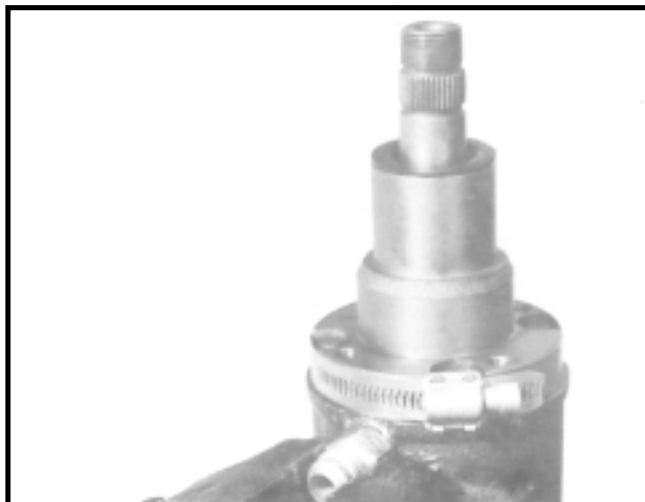

Figure HGA-20
- 16a. Place shims on top of the thrust washer (11). Coat seal (8) with clean grease and place in upper cover (7) counterbore. Assemble upper cover onto input shaft (16) and rotate to align punch marks previously made during disassembly. **Note: If a new upper cover is used no angular orientation is required. However, it is necessary to align the upper cover (7) and housing (25).** Replace with screws, finger tight, and then use a pilot ring or a worm drive type hose clamp tightened around the upper cover flange and the body pilot diameter to achieve the required alignment. Now tighten screws to 18-22 ft. lbs. torque. (See Figure HGA-20).